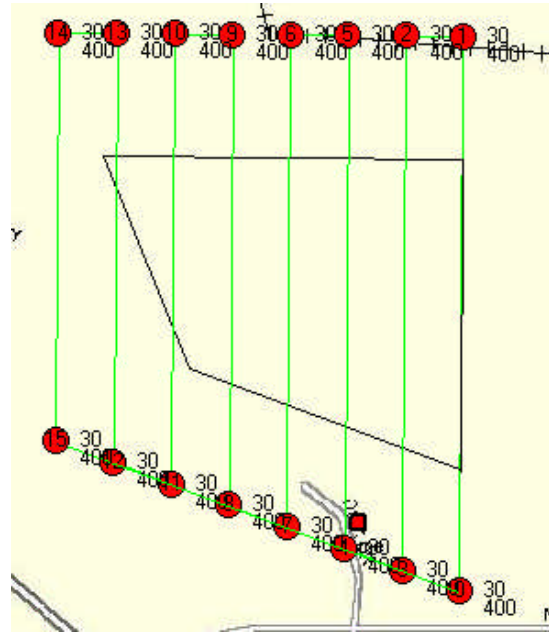

Figure 27. Automatically generated waypoints overlaying originally selected area
- A series of new waypoints for the aircraft to fly the paint plan will automatically be generated and the original box will be designated with a black line as depicted in Figure 27.